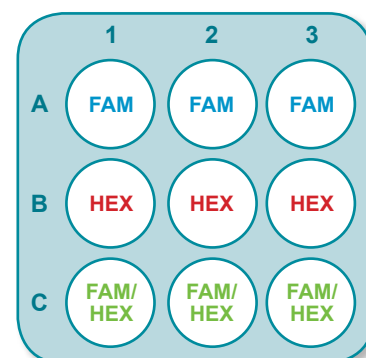

Figure 1. Suggested plate layout for dispense of the three KASP fluorophores supplied in the KASP validation kit.
2. Dispense the three different fluorophores into a microtitre plate. Each fluorophore should be dispensed into separate wells, in triplicate (see Figure 1 for suggested layout). NOTE: use the same plate type that you intend to use for KASP genotyping. For 96-well plates, dispense 10  $\mu$ L into each well. For 384-well plates, dispense 5  $\mu$ L into each well.